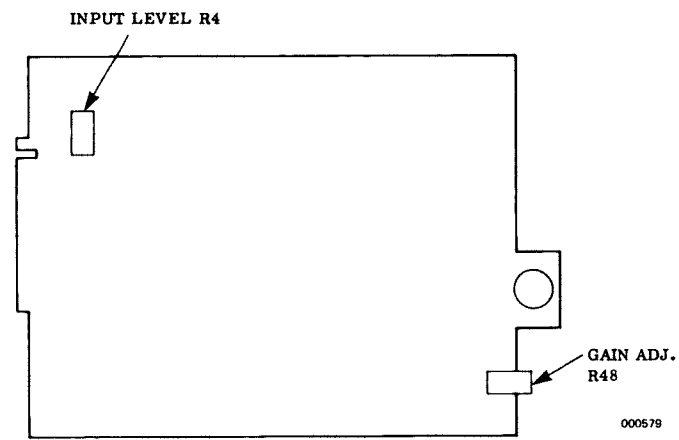

Figure 3-8. Direct Reproduce Amplifier Adjustments
- d. Adjust the GAIN ADJ control on the reproduce module to produce the desired STANDARD OUTPUT LEVEL. (See Figure 3-8.)